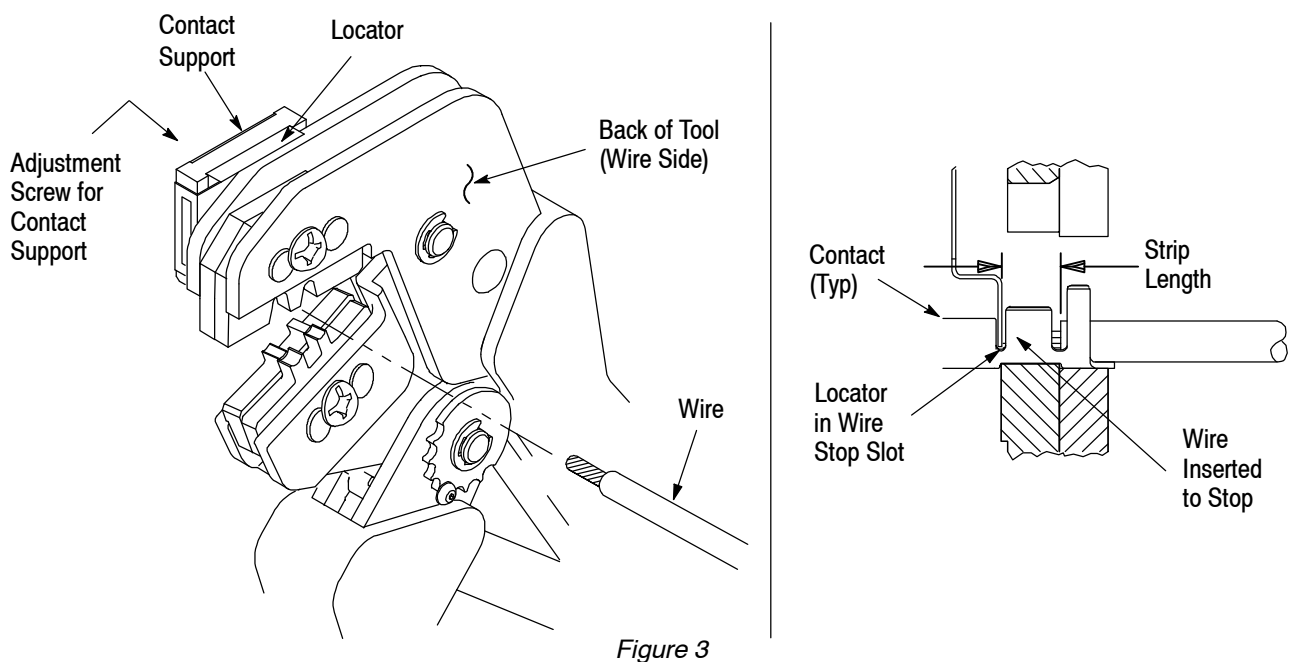

Figure 3
4. CONTACT SUPPORT ADJUSTMENT (Figure 3)**NOTE**
Refer to the table in Figure 1 and select wire of the specified size and insulation diameter. Strip the wire to the length indicated in Figure 1, taking care not to nick or cut wire strands. Select an applicable contact and identify the appropriate crimp section according to the wire size markings on the tool. Refer to Figure 3 and proceed as follows:
3. Position the contact so that the mating end of the contact is on the locator side of the tool, and so that the open “U” of the wire and insulation barrels face the top of the tool. Place the contact up into the nest so that the movable locator drops into the slot in the contact. Refer to Figure 3. Butt the front end of the wire barrel against the movable locator.
5. Insert stripped wire into contact insulation and wire barrels until it is butted against the wire stop, as shown in Figure 3.
The crimped contact may stick in the crimping area, but the contact can be easily removed by pushing downward on the top of the locator (see Figure 3).